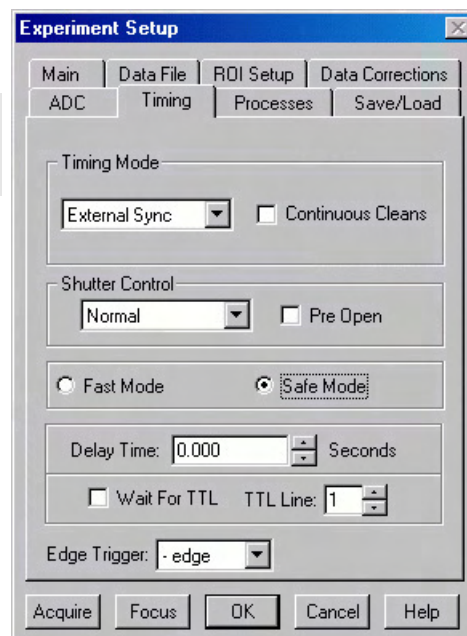

Figure 38. Experiment Setup dialog box
3. On the **Timing** tab page (Figure 38) set the following parameters.